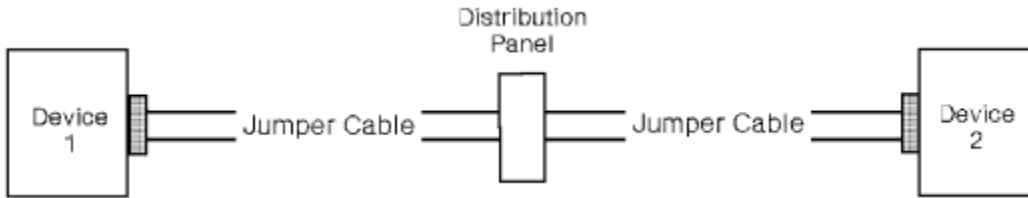

Figure 36. Link configuration 2 consisting of 2 jumper cables and 1 distribution panel
- Two jumper cables connected through 1 distribution panel (Figure 36 on page 20)